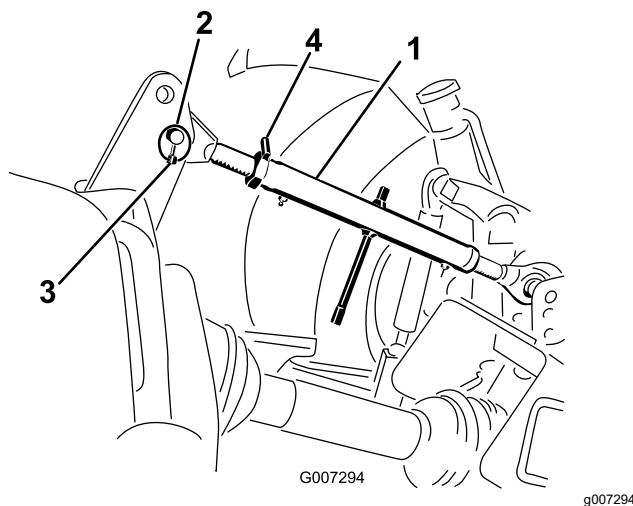

Figure 8
1. Connect the upper link to the lower hole in the bracket and secure it with the link pin and the lynch pin (Figure 8).
- Rotate the upper link to tighten the link. Adjust it until the frame at the front of the machine is vertical (Figure 8).